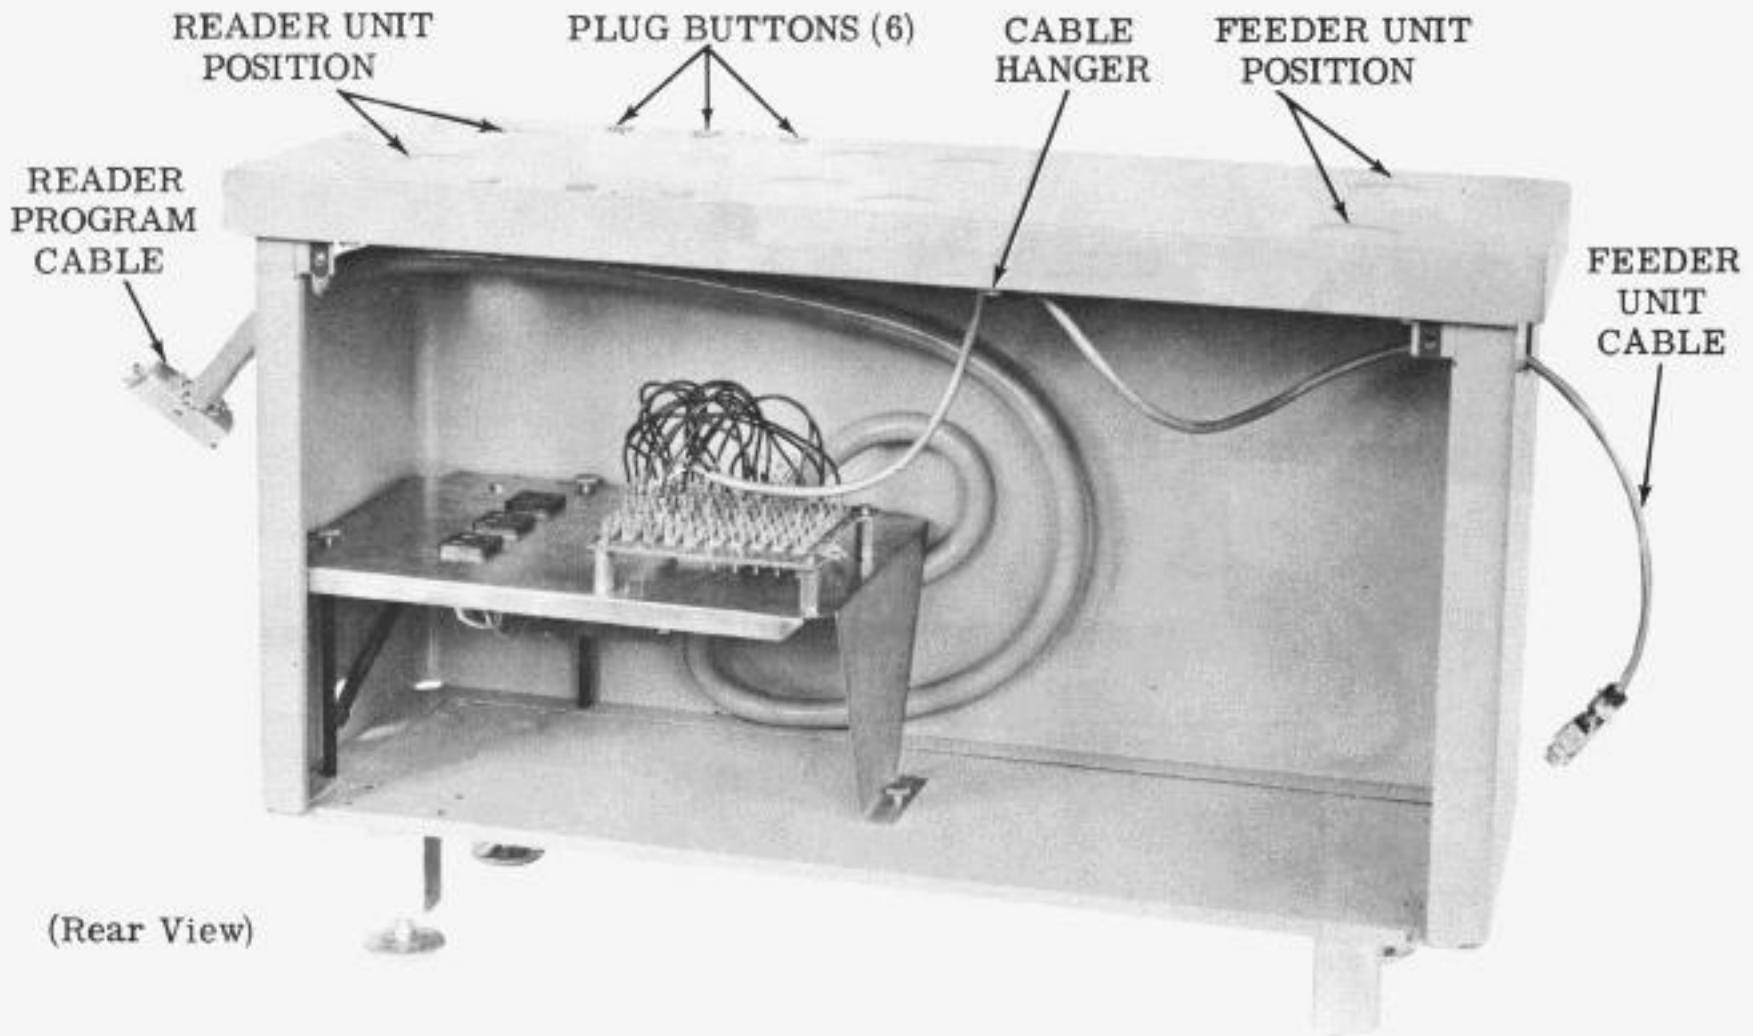

Figure 3 - 35 Edge Punched Card Feeder and Reader Table (Rear Panel Removed)
1.03 A shelf is provided in the table pedestal for mounting electrical components (Figure 3).
2.05 A removable panel is provided in the pedestal for servicing and connecting the electrical components (Figures 3 and 5).
2.11 The pedestal cover has eight embossed positions for unit locations and six plug buttons for special switch applications (Figure 3).
3.05 Route cable TP324508 with its connector through the opening in the upper right side of the pedestal a distance of approximately 10 inches for edge punched card reader installation (Figure 3).
3.08 Route the edge punched card feeder cable through the opening in the upper left side of the pedestal for a distance of approximately 10 inches (Figure 3).
3.10 Finalize the location of the table before positioning the edge punched card reader and feeder units in their respective embossments provided on the table top (Figure 3).